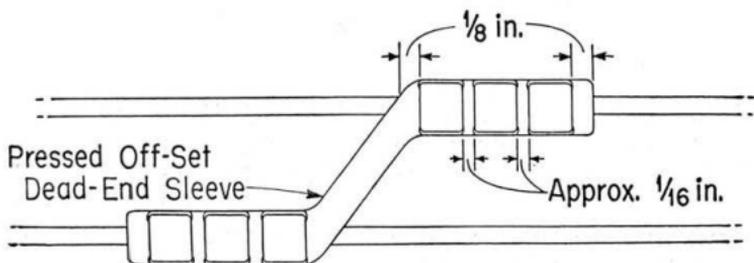

Fig. 8
(7) In the case of the offset (109 steel) Dead-End Sleeve, 3 presses are made on each end of the sleeve in the J groove of the 51-JE Nicopress Tool. The first presses are made at the inside about $\frac{1}{8}$ inch from the opening at offset. The other presses should be spaced so at least $\frac{1}{8}$ inch is left unpressed at each end of the sleeve as illustrated in Fig. 8.